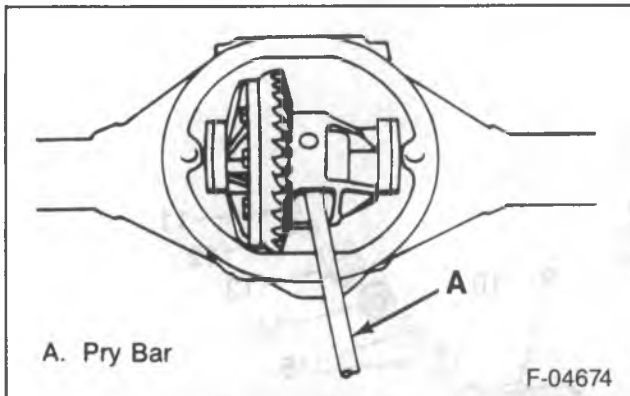
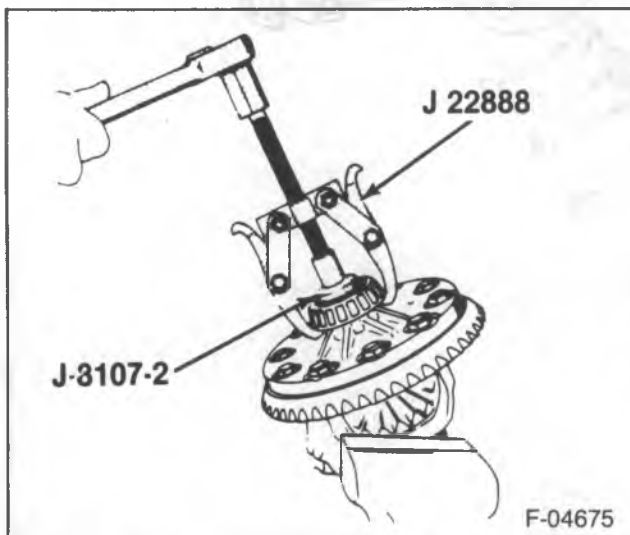

Figure 2—Removing the Differential Case
Figure 3—Removing Differential Side Bearings
9. Differential carrier (24).
- Pry the case from the axle housing at the differential "window" (figure 2).
10. Bearing outer races (22), shims (21), and spacers (23).
11. Differential side bearings using J 8107-2 and J 22888 (figure 3).
12. Ring gear bolts (25).